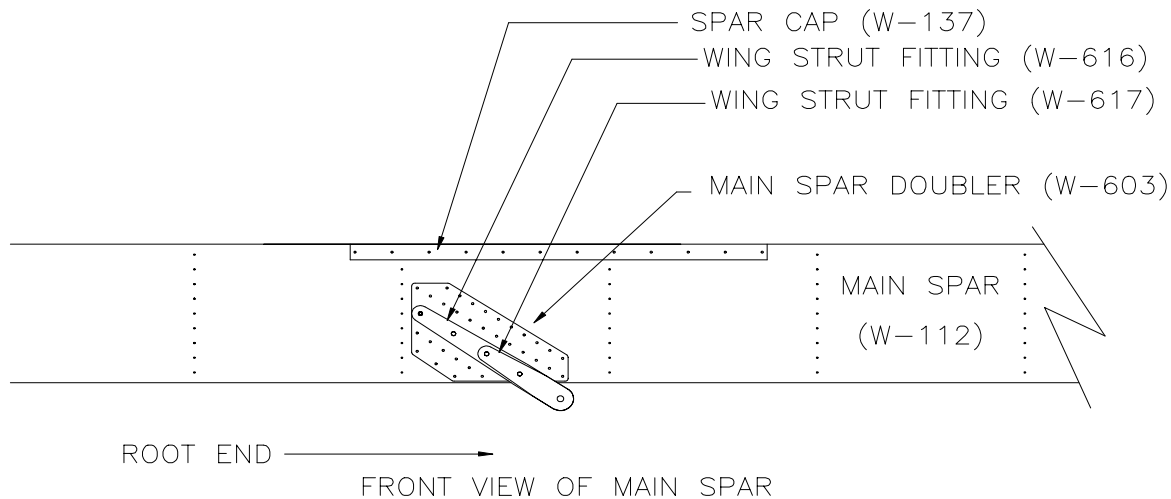

Figure 8.2.3
5) Cleco the Main Spar (W-112), Main Spar Doubler (W-603), Long Wing Strut Fitting (W-616) and Short Wing Strut Fitting (W-617) together. Figure 8.2.3.